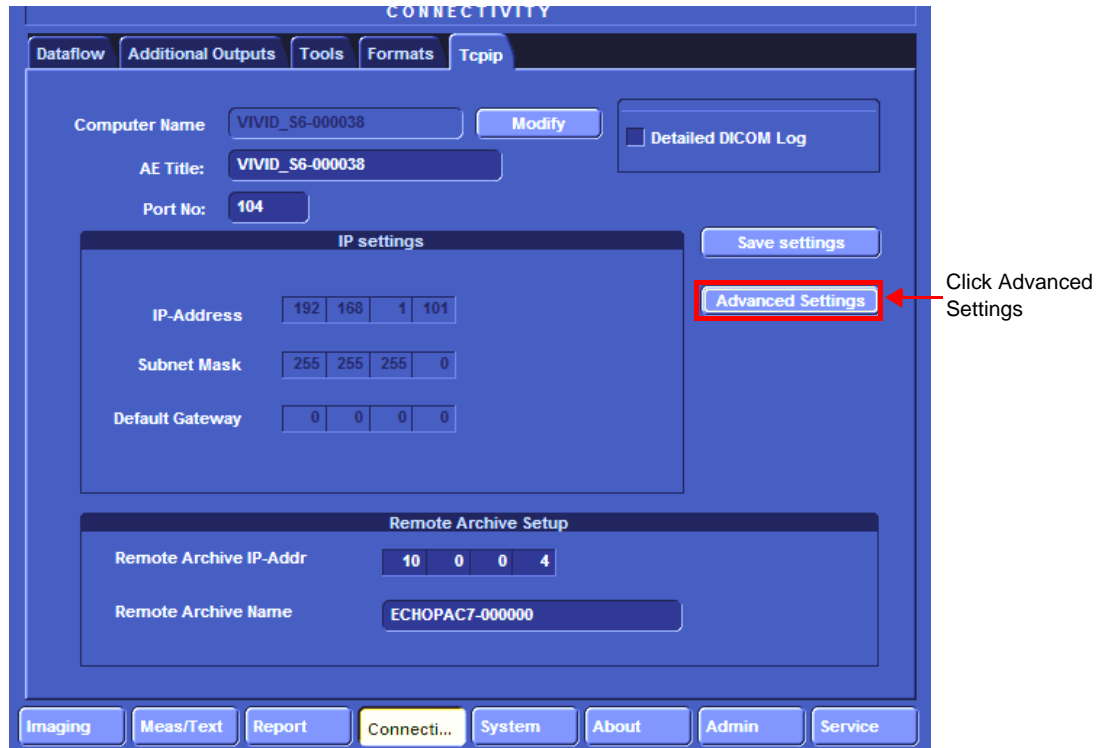

Figure 3-22 Tcpip screen
- 2.) Select **Advanced Settings** - see Figure 3-22.